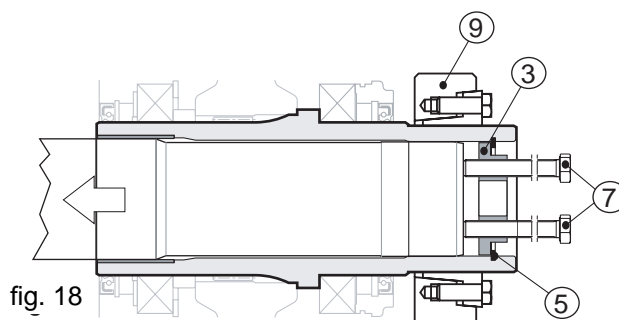

fig. 18
Insert 2 bolts (pos. 7) into the two threaded holes on the backplate (pos. 3) and screw them until they touch the machine shaft (pos. 1). Now give them alternately one full turn each (see Fig. 18).